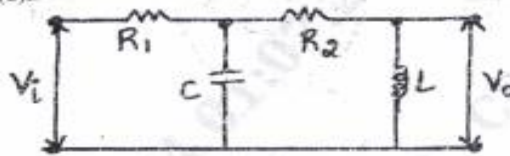

Fig Q4(b)
b. Construct the signal flow graph and determine the transfer function using Mason's gain formula for Fig Q4(b).